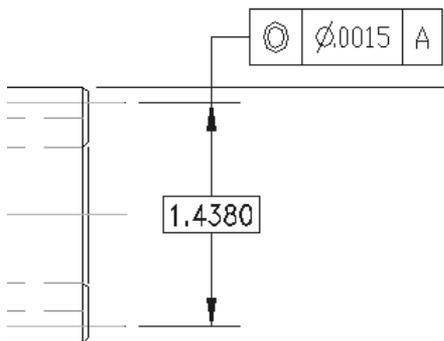

Figure 15-31: A Basic dimension.
- ♦ **Basic** dimensions place the dimension in a box, as shown in Figure 15-31.